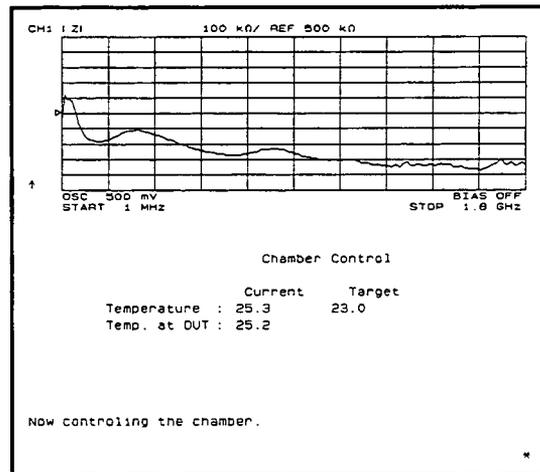

Figure 1-8. Temperature/Humidity Monitor
5. The graticule is displayed the above half-screen, and the temperature/humidity are displayed the under half-screen under as shown in Figure 1-8.